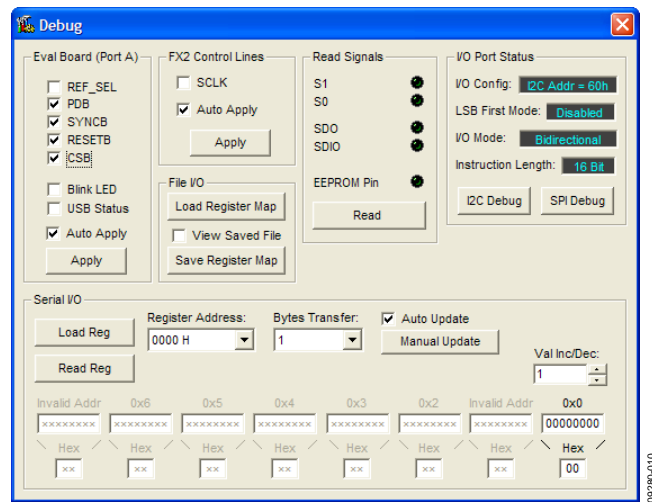
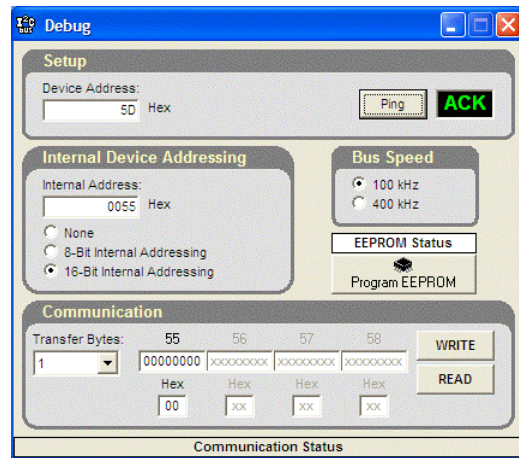

Figure 9. Debug Window
Figure 28. Evaluation Software I²C Debug Window
The **Debug** window, accessed by selecting **Debug Window** from the **View** menu, allows you to write and read registers directly and to force the various configuration pins high or low (see Figure 9).
7. From the **View** menu on the menu bar, select **Debug Window**. From the **Debug** window (see Figure 9), click the **I2C Debug** button under the **I/O Port Status** section. The window shown in Figure 28 appears.
8. Enter the I²C address set by Jumper P5 and Jumper P6 on the AD9523-1 evaluation board, and click **Ping**. The user should see a green **ACK** message as shown in Figure 28. Repeat this step for the I²C address of the target AD9523-1. If **ACK** is returned for both addresses, the remote AD9523-1 is ready to be programmed. If the ping test fails, double-check the cabling between the boards, as well as the I²C address of the target AD9523-1. Ensure that the I²C address of the AD9523-1 on the evaluation board is different from the target AD9523-1. Also, disconnect the jumper cable, and make sure that I²C mode is working properly on the AD9523-1 evaluation board.